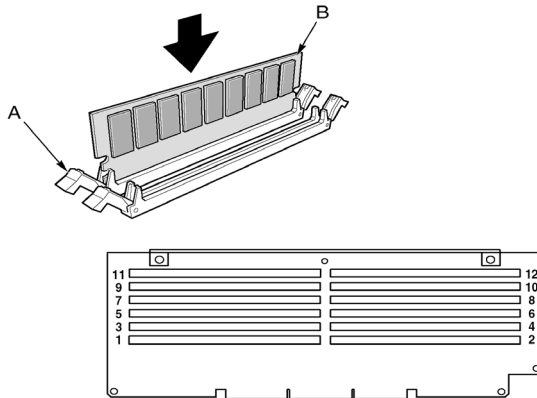

Figure 25 - Installing a DIMM
- 3 Open the plastic ejector levers (Figure 25, A) at each end of the DIMM socket on the memory board .